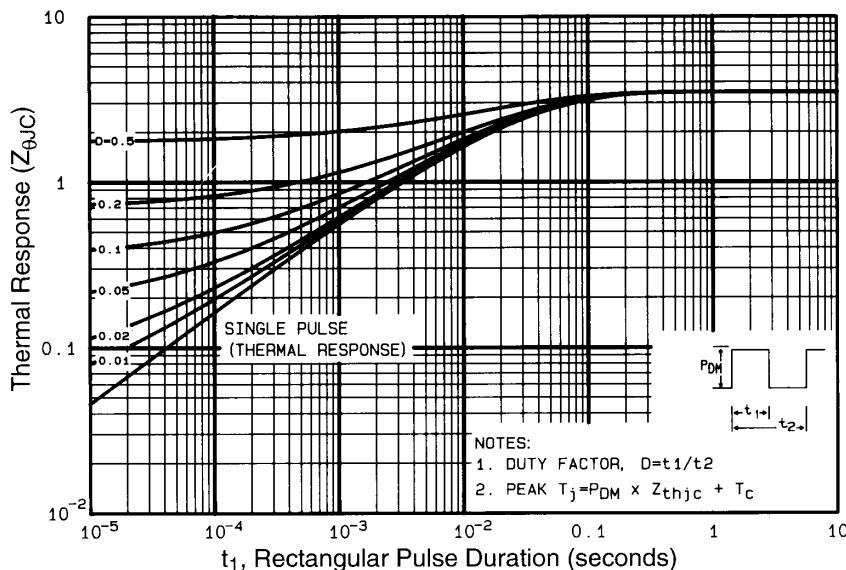

Fig 11. Maximum Effective Transient Thermal Impedance, Junction-to-Case
- ① Repetitive rating; pulse width limited by max. junction temperature. (See fig. 11)
- ② $V_{\text{DD}} = 25\text{V}$, starting $T_J = 25^\circ\text{C}$, $L = 548\mu\text{H}$